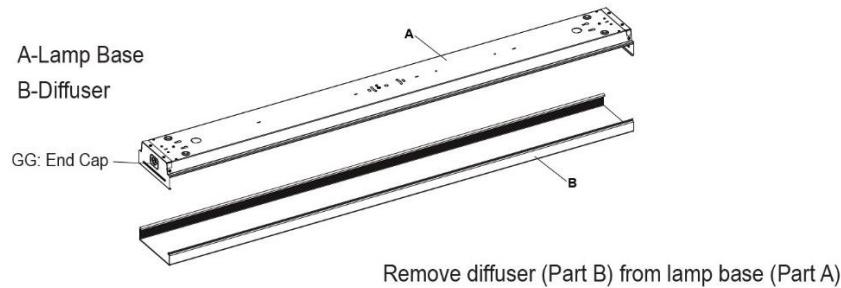

Figure 1
1. Attach the lamp base to the junction box by aligning the holes on the lamp base (Figure 1, Part A) with the screws on the junction box.
1. To install diffuser (Figure 1, Part B), start at one end of the lamp base and insert diffuser slot onto the edge of the lamp base (Figure 6).
4. Hide cables with wire nuts in the junction box. Guide the heads of the four wood screws into the keyhole slots and slide the lamp base (Figure 1, Part A) in the direction such that the wood screw heads rest over the narrow part of the keyhole slot. Ensure that the fixture is supported and tighten the four wood screws until the fixture is secured to the mounting surface. (Figure 11)
5. To install diffuser (Figure 1, Part B) - starting at one end of lamp base, insert diffuser slot onto edge of lamp base - See Figure 12. Carefully squeeze diffuser to engage opposite side with lamp base. Continue this action down length of diffuser until fully installed onto lamp base. (Figure 12). Turn on breaker and test light function.